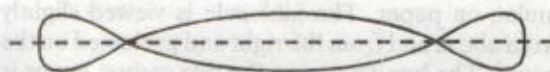

FIGURE 15.6. A cylindrically symmetric MO (of a single bond) obtained by overlapping of sp^3 -hybrid orbitals of two carbon atoms.
It has already been stated in Unit 5 that a sigma (or single covalent) bond between two carbon atoms is formed by overlap of sp^3 -hybrid orbitals of each carbon along their internuclear axis. Therefore, the electron distribution within the molecular orbital (MO) thus formed is *cylindrically symmetrical* along the internuclear axis as shown in Fig. 15.6. Due to this cylindrical symmetry of σ -MO's, *rotation about carbon-carbon single bond is almost free* (as it requires very little energy for rotation). As a result of this almost free rotation, the molecules of an alkane can have different shapes, i.e., different relative arrangements of their atoms in space.